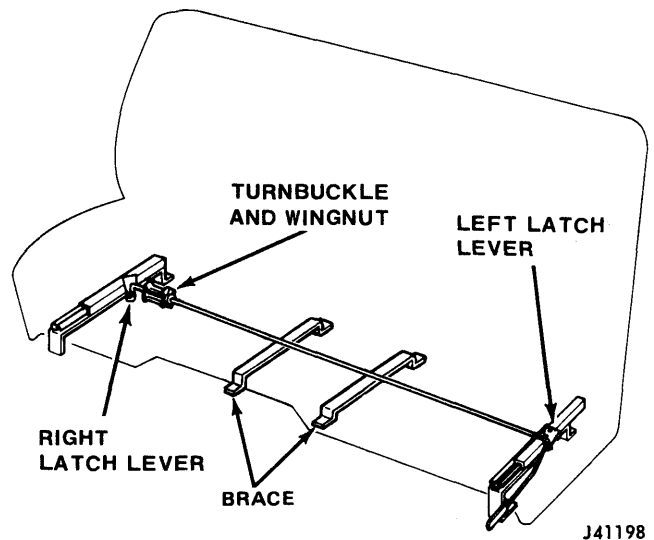

Fig. 19-2 Front Seat Adjustment—Typical
- (1) Locate turnbuckle under the bench seat (fig. 19-2). Loosen turnbuckle wingnut.
- (2) Tighten turnbuckle until slack is removed from wire.
- (3) Back off turnbuckle three turns.
- (4) Secure wingnut up against turnbuckle.
- (5) Check for proper seat adjustment operation. If right side of seat will not release, increase tension by tightening turnbuckle. If right side of seat will not lock in place, decrease tension by loosening turnbuckle.